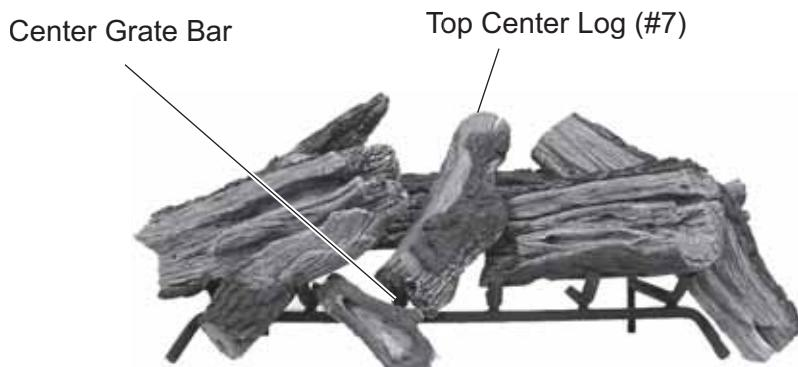

Figure 145 - Placing Top Center Log (#7) on Rear Log
8. Place wide end of Top Center Log #7 on Rear Log #1. Rest narrow end of Top Center Log #7 to the left of center grate bar barely touching the Mid Log #6. *See Figure 145.*